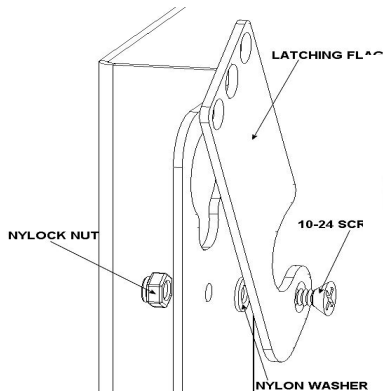

Figure 2
1. Attach latching flag to mount using the 10-24 Philips screw, the nylon washer, and the Nylock nut (see Figure 2). Tighten until friction will hold the flag in place.